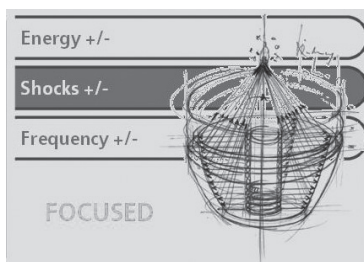

Fig.3-2 Parameter entry screen
- The selection area (Fig.3-2) of the parameter entry screen contains the nominal value selection fields "Energy level", "Number of shocks" and "Frequency"